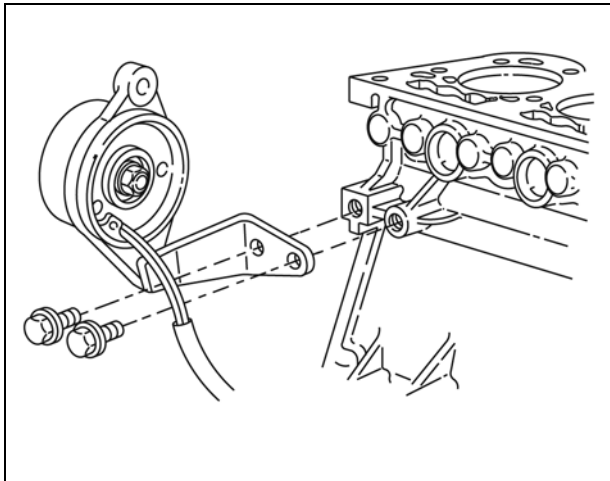

Figure 2
5. Remove alternator bracket and alternator (Figure 2).